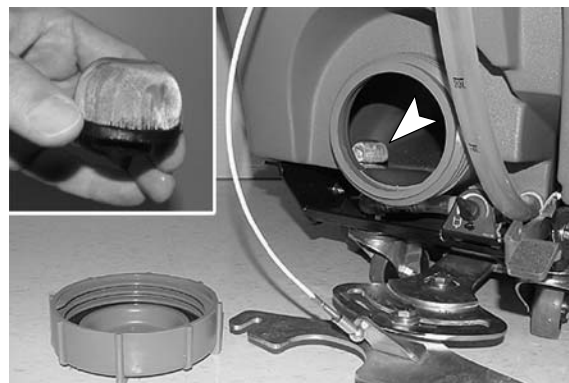

FIG. 33
3. Remove and clean the solution tank filter (Figure 33). Turn the filter counter-clockwise to remove.